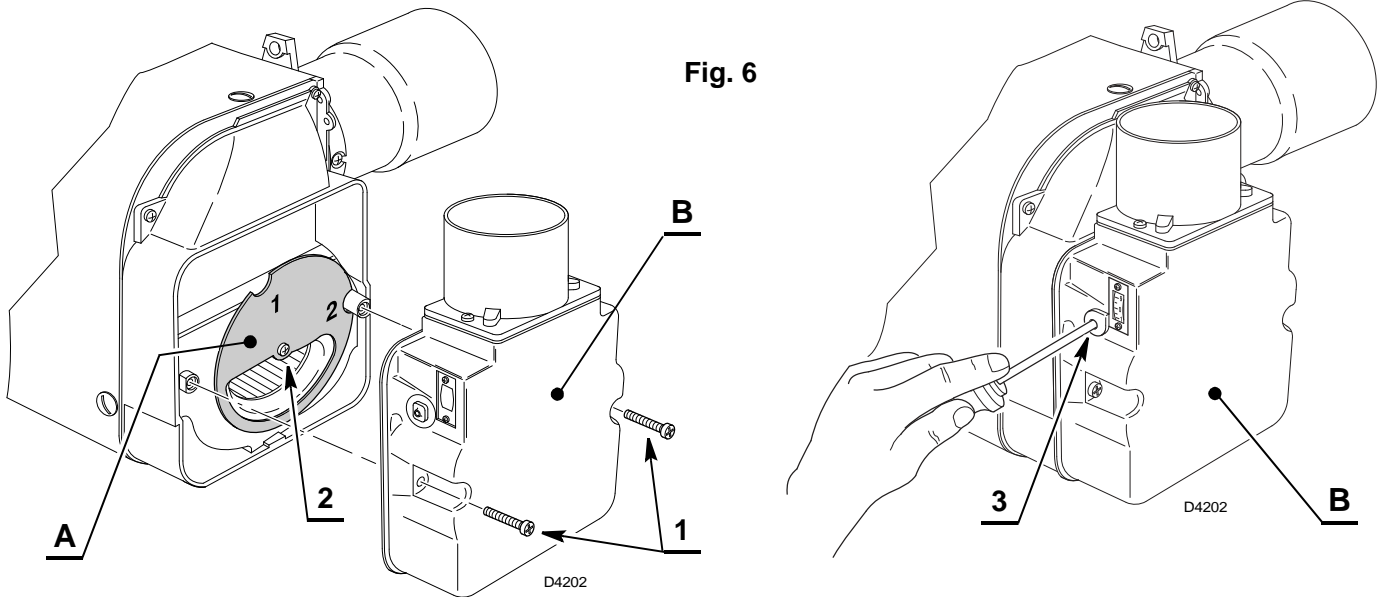

Fig. 6
The air is adjusted by turning the screw (3, fig. 6, page 10).
4.3 AIR DAMPERS SETTING (see fig. 6, page 10)